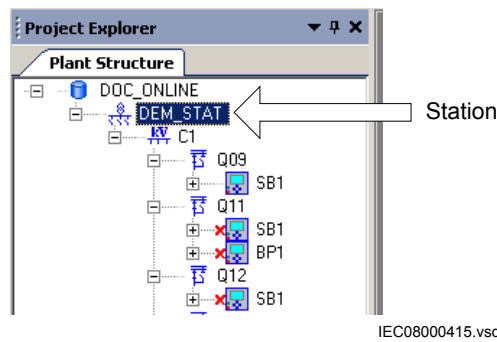

Figure 75: IEC 61850: Export SCD step 1
1. Select the station in the plant structure, see Figure 75.